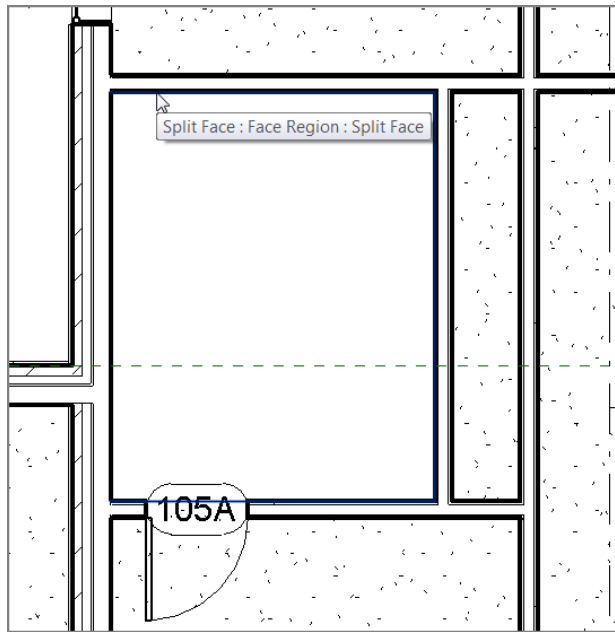

FIGURE 6.46: The completed lavatory
4. When you see the perimeter of the small region you created around the inside of the lavatory, pick a spot. The area fills with the new material (see Figure 6.46). Click Done to close the Material Browser.